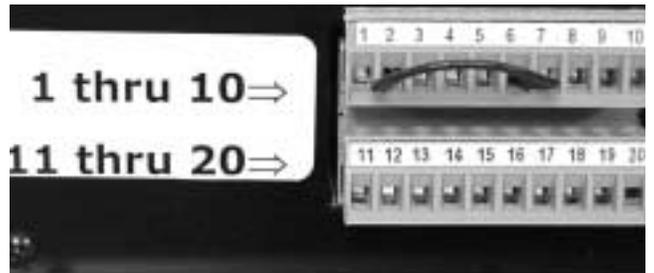

Figure 19. Contacts Connection
1. Install a jumper wire between terminals #6 and terminal #2 (see Figure 19).